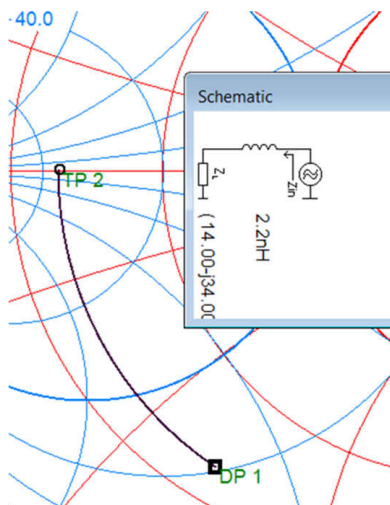

Figure 5-4. Matching the High-Band With an Ideal Value of L_{HIGH} : 2.2 nH and C_{HIGH} : NC
- L_{HIGH} : 2.2 nH and C_{HIGH} : NC; see Figure 5-4